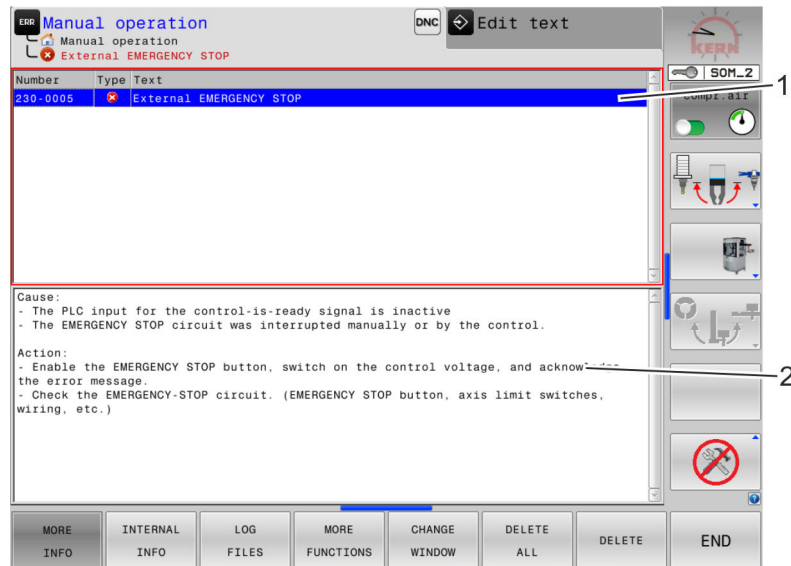

Fig. 91: Fault indicator (example)
3. The name of the fault (Fig. 91/1) as well as the details of the cause of the fault and measures to remedy it can be found in the pop-up window (Fig. 91/2).
6. Remedy the fault in accordance with the description of the remedy (Fig. 91/2), taking into consideration the relevant personnel qualifications.